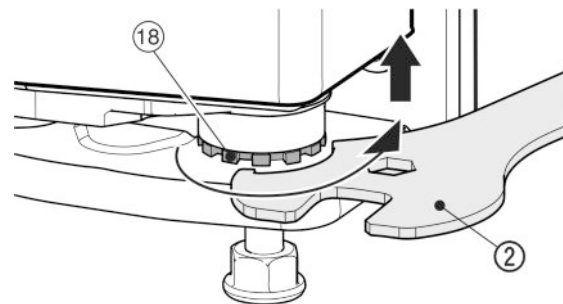

Fig. 18
- ▶ In order to lift the door unscrew the mounting block Fig. 18 (18) clockwise with the supplied open-end wrench Fig. 18 (2). When delivered the mounting block is completely screwed in.